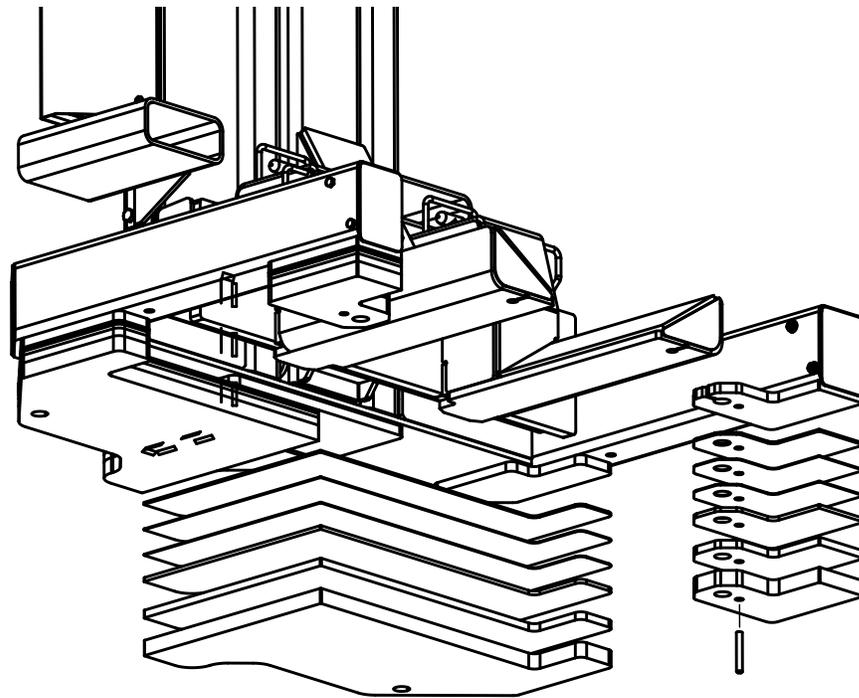

Fig. 11
- B. Maximum shim thickness is 2". If more shimming is required, consult manufacturer for additional shim kits and longer anchor bolts if required, Fig. 11.